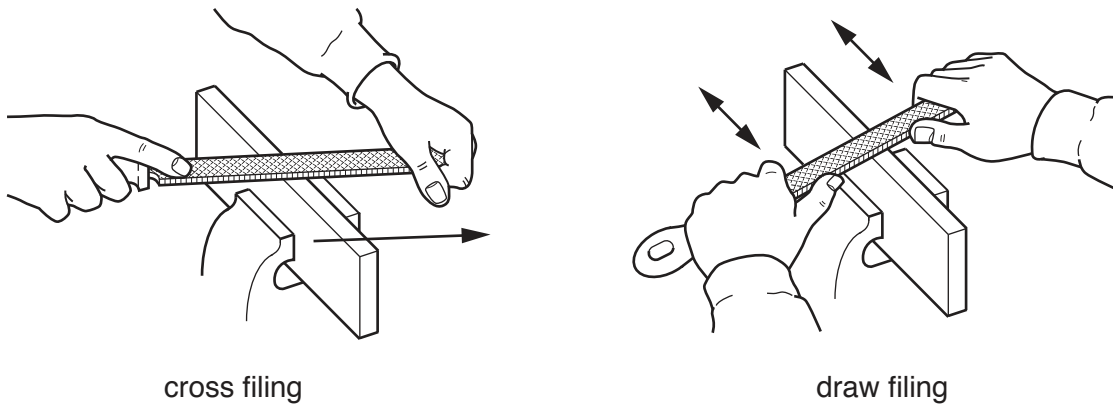

Fig. 1
- 2 Fig. 1 shows two different methods of filing metal.